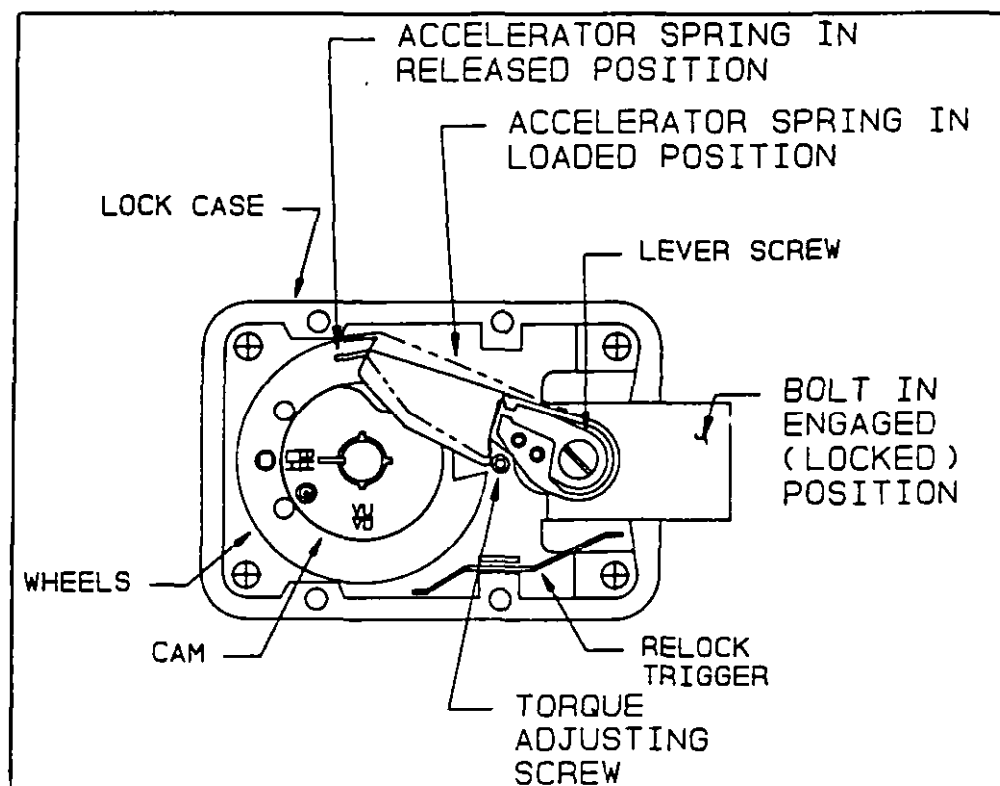

Figure 11
d) Place the lock bolt in the locked or engaged position and the accelerator spring in the loaded position (Figure 11 - Note: Do not remove the drive cam).
3.2.3.5 Torque Adjustment. To adjust torque on locks equipped with an adjusting screw, remove the back cover and insert a 3/32-inch allen wrench into the adjusting screw (see Figure 11). Turn clockwise to tighten or counterclockwise to loosen.